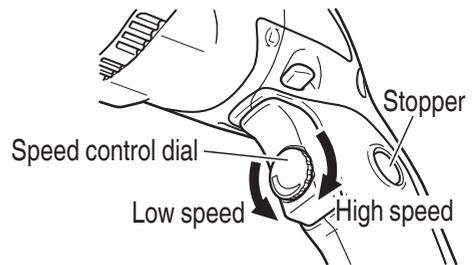

Fig. 6
- The desired rotation speed can be pre-selected with the speed control dial. Turn the speed control dial clockwise for higher speed and counterclockwise for lower speed. (Fig. 6)